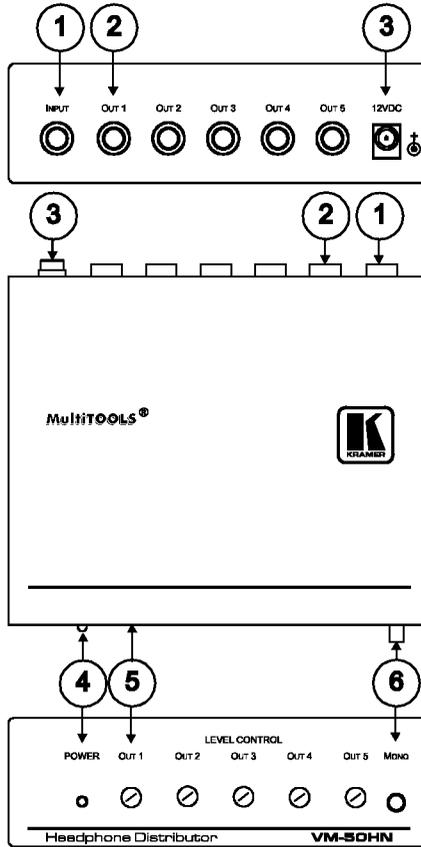

Figure 3: VM-50HN Headphone Distributor
Figure 3 and Table 3 define the VM-50HN.
3. Set the MONO pushbutton OUT for stereo operation and press IN for mono operation (see Figure 3).
5. Adjust the volume for each output using a small screwdriver to turn the potentiometers on the front panel (see Figure 3).